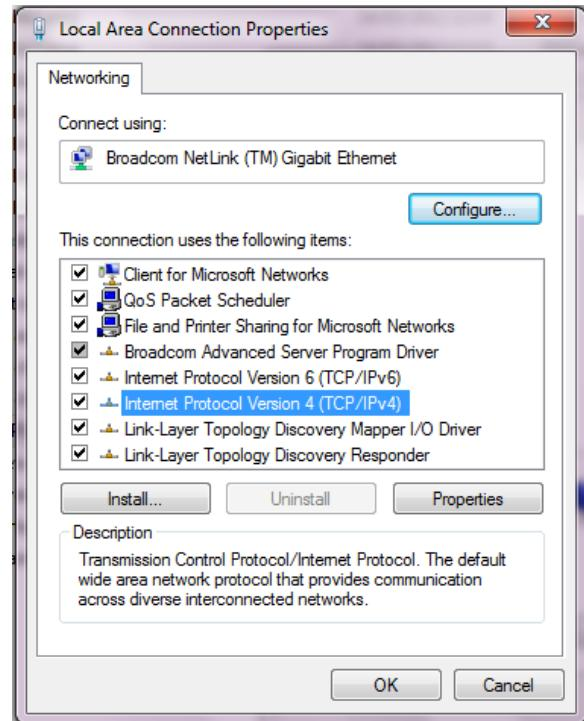

Fig. 14: Network window.
3- Select **Internet Protocol (TCP/IPv4 or TCP/IPv6)** and click on the **Properties** button. The window in Fig. 14.
- 4- At this point in the installation (Fig. 14), the user has to activate the “**Use the following IP address**” box.